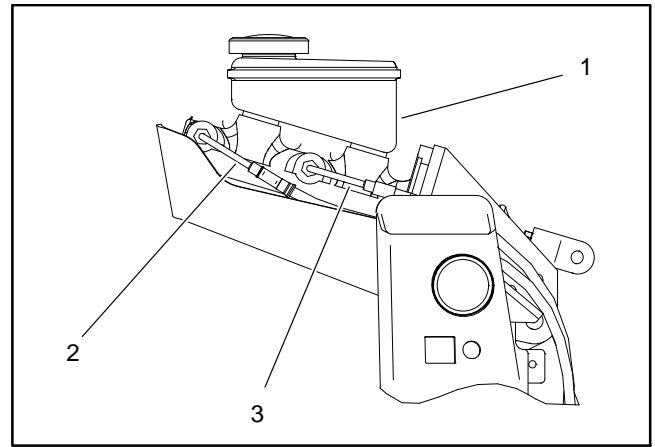

Figure 10
1. Position master cylinder to vehicle frame and secure with two (2) flange head screws and flange nuts.
2. Remove plugs from brake lines. Install brake lines to master cylinder. Make sure that brake lines are properly connected to master cylinder (Fig. 10).